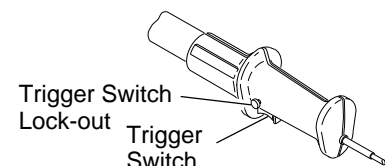

Figure 10. Pole Saw Handle with Trigger Switch Lock-out
4. When ready to make a cut, press in trigger switch lock-out and squeeze trigger switch (see Figure 10). This will turn Pole Saw on. Releasing trigger switch will turn Pole Saw off. Make sure saw is running at full speed before starting a cut.